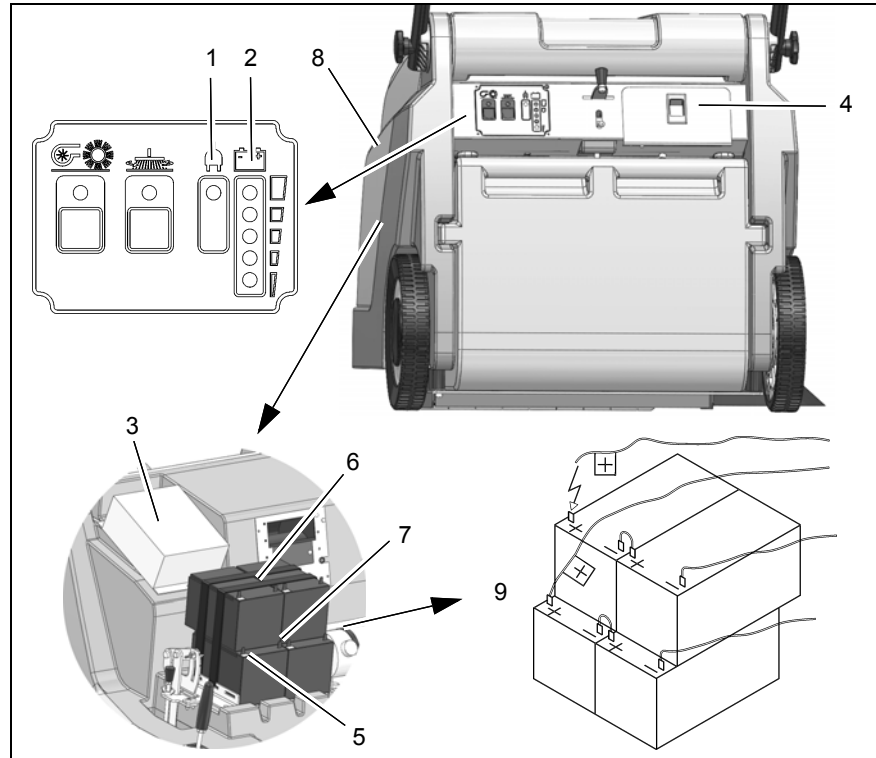

Fig.7
The charge control indicator (Fig. 7/2) indicates the charge status of the batteries during operation. When the batteries are discharged, the red LED flashes. The machine functions are restricted. Charge the batteries immediately!
The charge control indicator (Fig. 7/2) indicates the charge status of the batteries during operation. The batteries must be charged immediately the red LED lights up. The batteries (Fig. 7/7) are charged using the integrated battery charger (Fig. 7/3). The charger is connected by means of the power cable (Fig. 7/4). While the battery is being charged, the battery indicator on the charger (Fig. 7/1) lights up.
4. Slacken the lashing straps (Fig. 7/6).
5. Disconnect the connection cable (Fig. 7/5) from the batteries and remove the batteries.
1. Install the two lower batteries in the battery holder in accordance with Figure 7.
4. Tighten the lashing straps (Fig. 7/6).
5. Connect the battery poles to the connection cables in accordance with the connection plan (Fig. 7/9).
6. Close the hood (Fig. 7/8) and lock in place with the locking bolt on the frame.